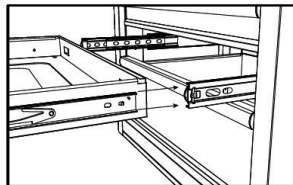

Fig. 6
2. Hold the slide on the drawer while aligning it with the slide on the cabinet (Fig. 6).